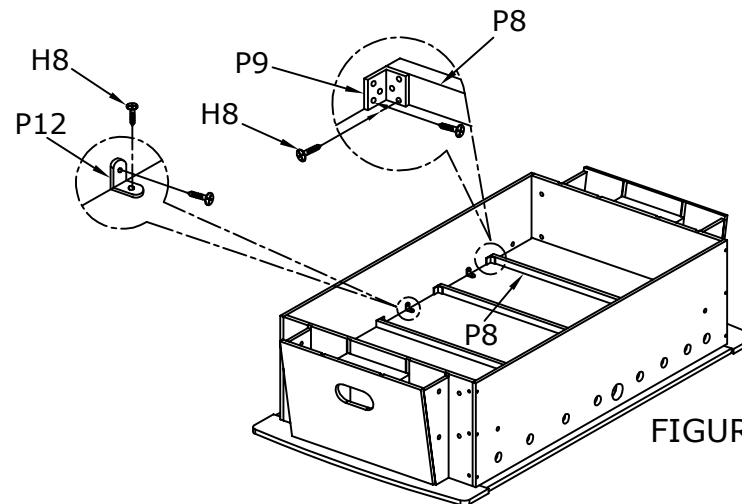

FIGURE 4
4. Place the playfield support braces on the bottom of the playfield . Attach the braces using brackets **P9** and screws **H8**.see **figure 4**.
5. Attach the bracket **P12** to the side panels and the playfield with screws **H8** as shown in **figure 4**.